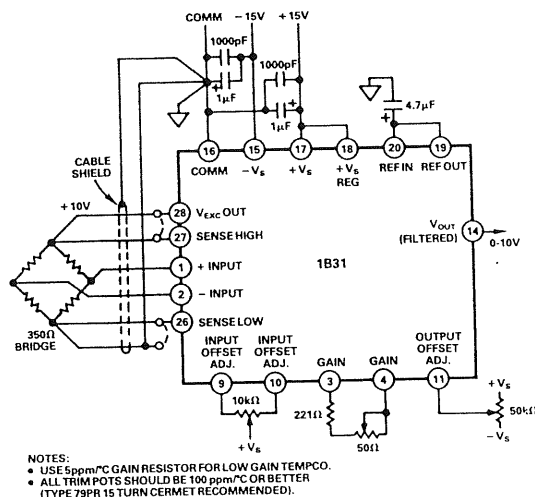

Figure 2. Typical Application
where RG is connected between the GAIN terminals (Pins 3 and 4) of the 1B31, as shown in Figure 2. For best performance, a low temperature coefficient (5ppm/°C) RG is recommended. For fine span adjustment, a 50Ω potentiometer may be connected in series with RG.
**Input Offset Adjustment:** To null input offset voltage, an optional 10kΩ potentiometer may be connected across the INPUT OFFSET ADJ. terminals (Pins 9 and 10 in Figure 2). With gain set at the desired value, connect both inputs (Pins 1 and 2) to COMMON (Pin 16), and adjust the 10kΩ potentiometer for zero volts at Pin 14. For applications using software nulling, Pins 9 and 10 should be left unconnected.
**Output Offset Adjustment:** The output can be offset over the ±10V range to compensate for dead load or bridge imbalance by using a 50kΩ potentiometer connected to Pin 11 as shown in Figure 2. Pin 11 is normally grounded if output offsetting is not desired.